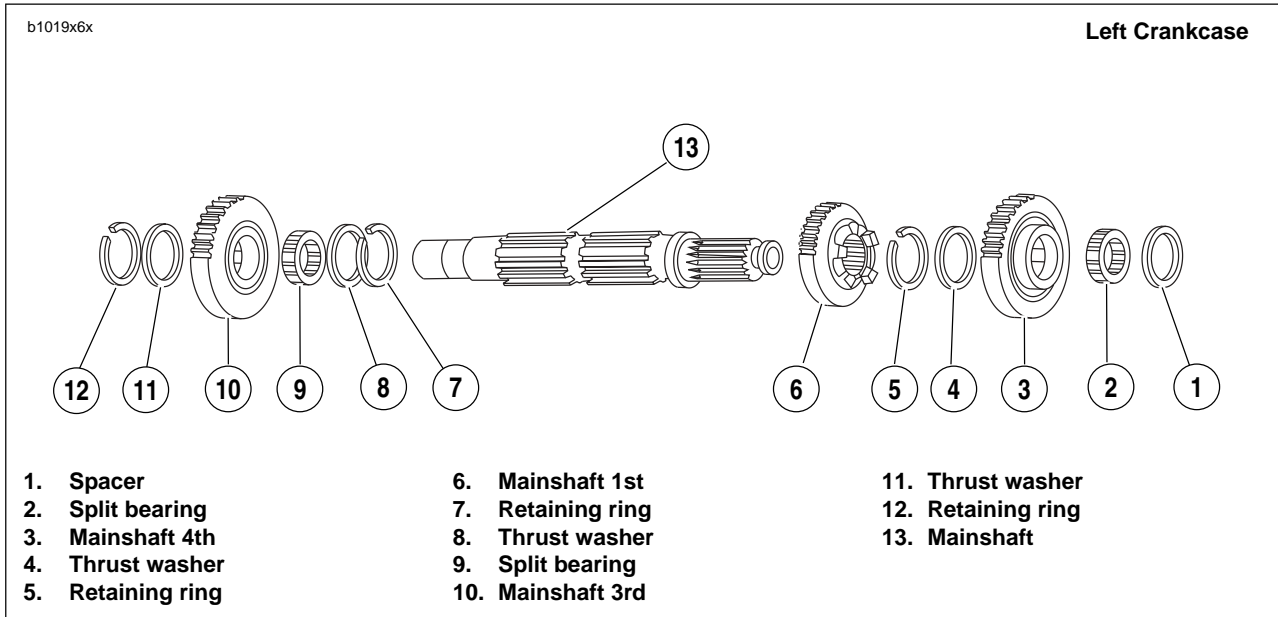

Figure 6-58. Transmission Mainshaft Assembly Once Removed from Left Crankcase/Disassembly
1. See Figure 6-58. Remove spacer (1), mainshaft 4th gear (3), split bearing (2) and thrust washer (4) from the threaded end of the mainshaft.
2. On the mainshaft, between mainshaft 1st gear (6) and mainshaft 3rd gear (10), use RETAINING RING PLIERS (Part No. J-5586) to expand retaining ring (7) and move next to mainshaft 1st gear along with thrust washer (8).
- a. Move mainshaft 3rd gear (10) as far as possible toward mainshaft 1st gear (6).
- b. Expand retaining ring (12) at opposite side of main shaft 3rd gear (10) and slide off end of mainshaft with thrust washer (11).
- c. Remove mainshaft 3rd gear (10) and its split bearing (9).
3. Slide thrust washer (8) off end of mainshaft.
4. Expand retaining ring (7), which is next to mainshaft 1st gear (6), and slide off end of shaft.
5. Remove mainshaft 1st gear (6).
6. Expand retaining ring (5) and remove.